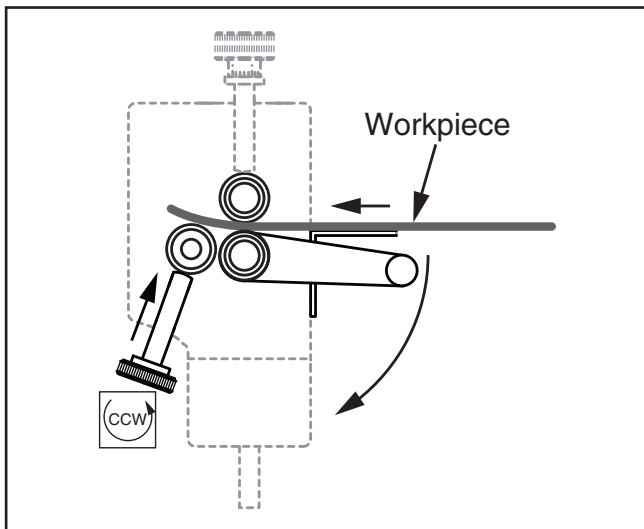

Figure 11. Setting the bend radius.
- Rotate the radius adjustment knobs counterclockwise to raise the rear roller until the desired radius bend is reached (see **Figure 11**).